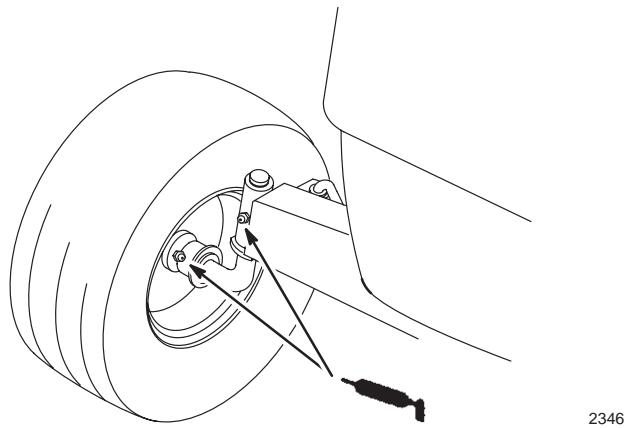

Figure 23
1. Lubricate the front wheels and steering spindles until grease begins to ooze out of the bearings (Fig. 23).